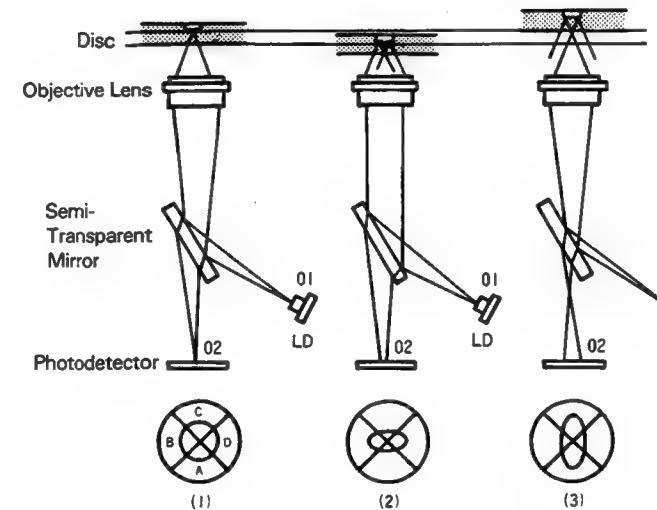
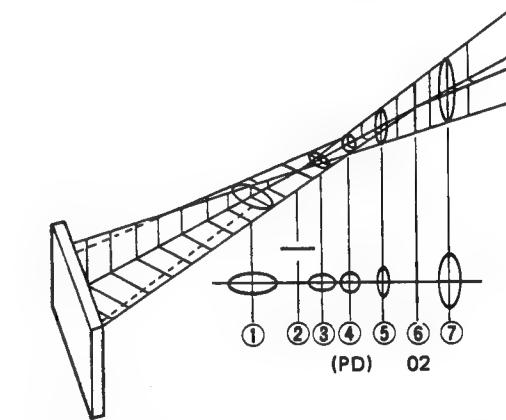
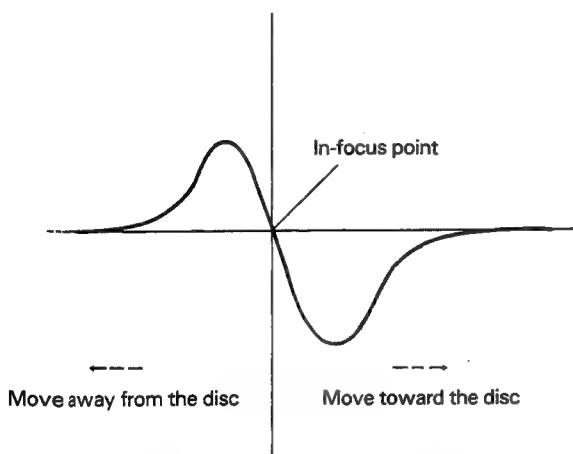

Fig. 12-3 Beam Focus on the Disc Surface
Fig. 12-4 Semi-Transparent Mirror
Fig. 12-5 The S-Shaped Curve
Fig. 12-3 shows how focus detection works. In (1), the light reflecting back through the objective lens forms a circle which touches all four photodetectors (labeled A through D) equally and signifies that the disc is in focus. The reflected pattern on the photodetectors forms an oval on the four photodetectors when there is a focus error. In (2), the disc is too close to the lens and in (3), the disc is too far. (The diffraction grating has been omitted from the figure for simplicity sake since it is not directly related to the focus signal and correction process.)
Fig. 12-4 displays the optical characteristics of the semi-transparent mirror. The lens affects only the vertical direction of the figures and not the lateral direction.
① through ⑦ in Fig. 12-4 show the beam shapes at varying distances from the semi-transparent mirror. Between the straight lines ② and ⑥ is the perfect circle ④. ⑥ corresponds to point (2) in Fig. 12-3. In order to make Fig. 12-4 coincide with Fig. 12-3 (1) to yield a circular beam shape, the photodetector must be set at ④. The beam shape in Fig. 12-3 (2) corresponds to a photodetector position in 12-4 that is relatively closer to the semi-transparent mirror, at about ③, with a horizontally elongated oval shape.
gated oval shaped beam. Conversely, Fig. 12-3 (3) corresponds to a photodetector position at around ⑤ with a vertically elongated oval.
The possible beam shapes that hit the photodetector are shown in Fig. 12-3. The focus signal is derived by simple arithmetic based on the signals from the four photodetectors: $(A + C) - (B + D)$.
When the objective lens is too near or far from the disc track surface most of the light does not reflect back to the photodetector. When the light that reflects back to the photodetector hits each of the four photodetectors uniformly, the focus signal is 0. When the objective lens moves too far from the disc surface it reflects a vertically elongated oval beam pattern like that of ⑦ in Fig. 12-4 on the photodetectors. In terms of the arithmetic for the focus signal, $(A + C) > (B + D)$ and the focus signal is a plus figure. As the lens moves closer to the disc to correct focus, the beam shape reaches its peak (a vertical line) at ⑥ and the lens continues to move away from the disc surface until $(A + C) - (B + D) = 0$ and the beam reflects a perfect circle on the photodetectors. Conversely, when the objective lens is too close to disc surface, a horizontally elongated oval beam will fall on the photodetector. In terms of the focus signal $(A + C) < (B + D)$ is a minus figure. As the objective lens moves away from the disc, it passes the horizontal line peak at ② and continues until the focus signal is 0. Fig. 12-5 graphs the typical S-shaped curve derived from the $(A + C) - (B + D)$ focus signal.